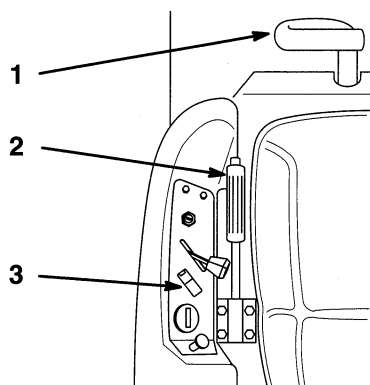

Figure 14
1. Release pressure on the traction control levers and place in neutral (Fig. 14).
2. Release the parking brake (Fig. 14).
1. Set the parking brake and check that PTO cover is down against footrest (Fig. 14).